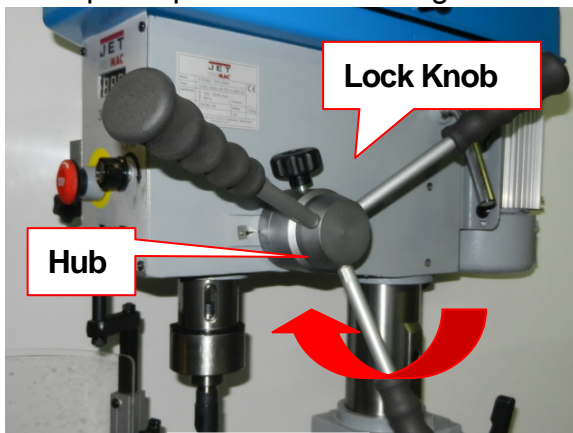

Figure 18
3. Loosen the lock knob and rotate the hub (**Figure 18**) clockwise until it stops.